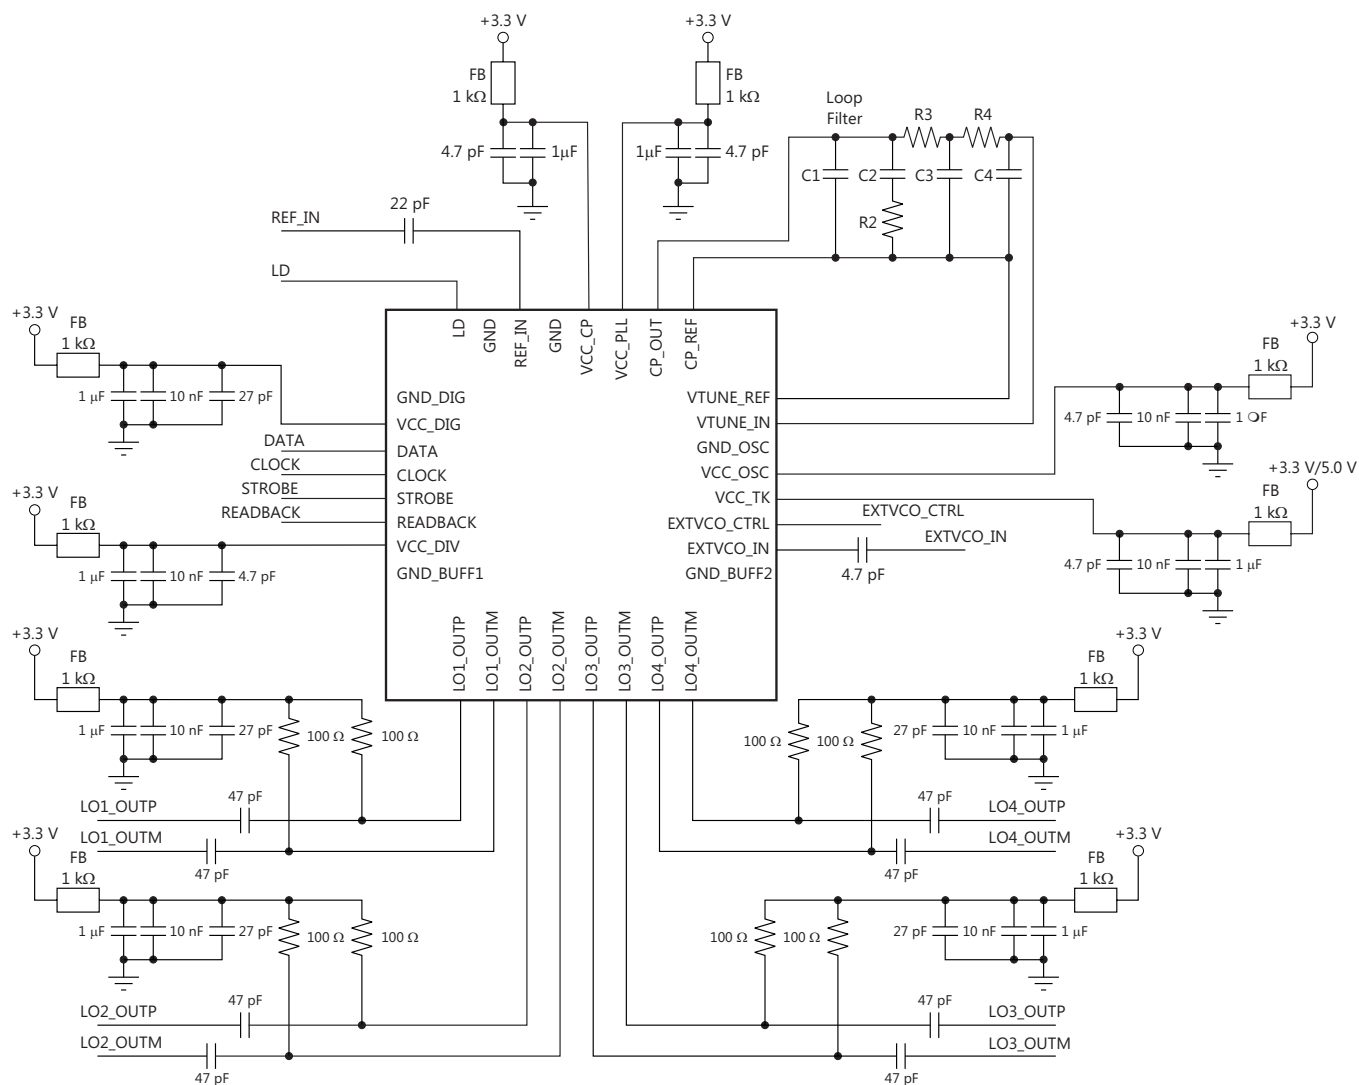

Figure 69. TRF3765 Application Schematic
Figure 69 illustrates a typical application schematic for the TRF3765. Table 21 lists the pin termination requirements and interfacing for the circuit.
- Changed VCC_OSC From: +3.3V/5.0V To: +3.3V, and VCC_TK From: +3.3V To: +3.3V/5.0V in Figure 69 41